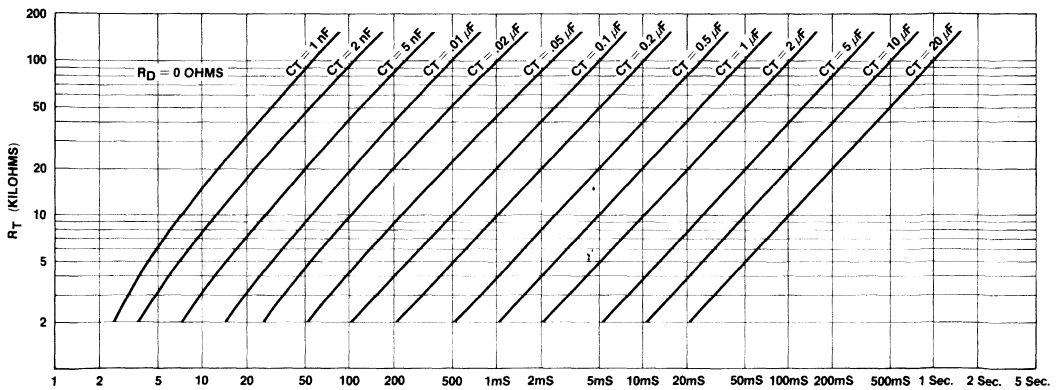

FIGURE 7.
1. With $R_D = 0$ ohms (pin 11 shorted to ground) select values for R_T and C_T from Figure 7 to give the desired oscillator period. Remember that the frequency at each driver output is half the oscillator frequency, and the frequency at the $+V_C$ terminal is the same as the oscillator frequency.